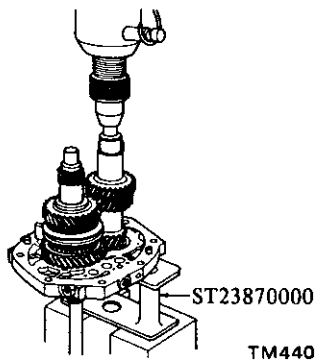

Fig. MT-32 Installing countershaft
3. Install countershaft into adapter plate by pressing it. See Figure MT-32.